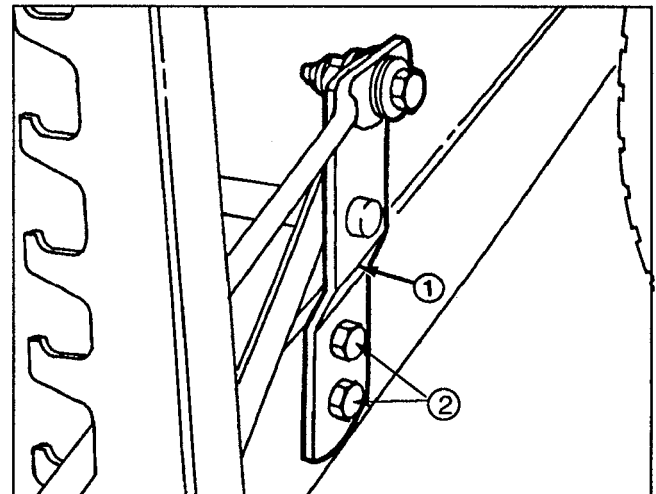

Figure 36
5. If blade tip height is not within 1/8 inch (3 mm), level cutting unit by loosening height-of-cut support bracket capscrews and raising or lowering the bracket (Fig. 36).